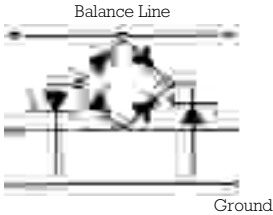

Fig. 19
6.9. R.F. coupling (Fig. 19 and 20)